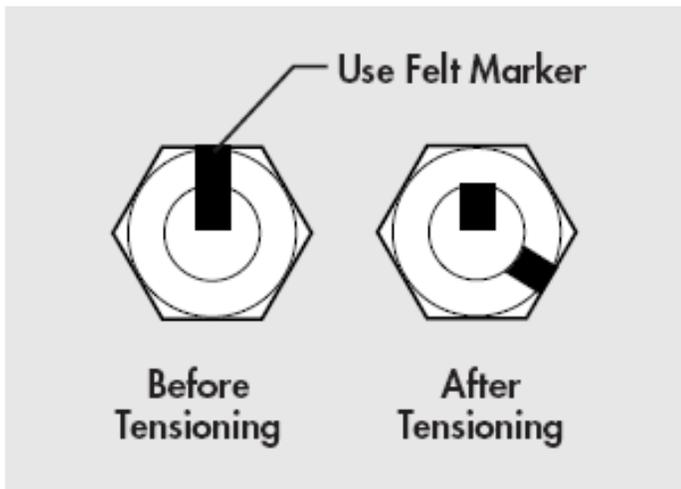

FIGURE 1-1A:
Step 5. Using a Felt-Tip Marker, mark the nuts and ends of the bolts with a straight line as shown above in Figures 1-1a (Bolts shorter than 4 diameters) and 1-1b (Bolts longer than 4 diameters)
- Moved 1/3 TURN (120°) as shown in Figure 1-1a, shorter than 4 diameters (“After Tensioning”)